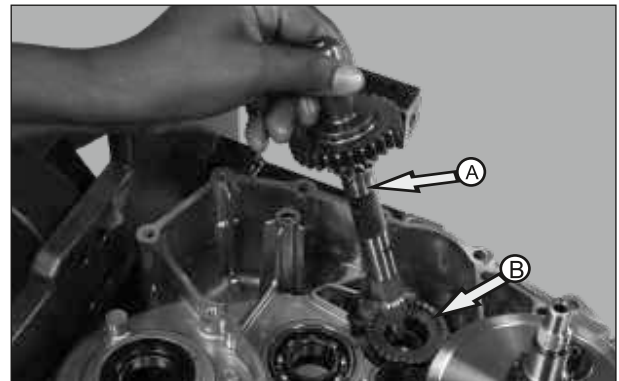

Fig. 3.85
- Pull out the shaft hand start from the crankcase LH (A). (Fig. 3.85)
- Take out spring ratchet hand start from crankcase LH. (B) (Fig. 3.85)